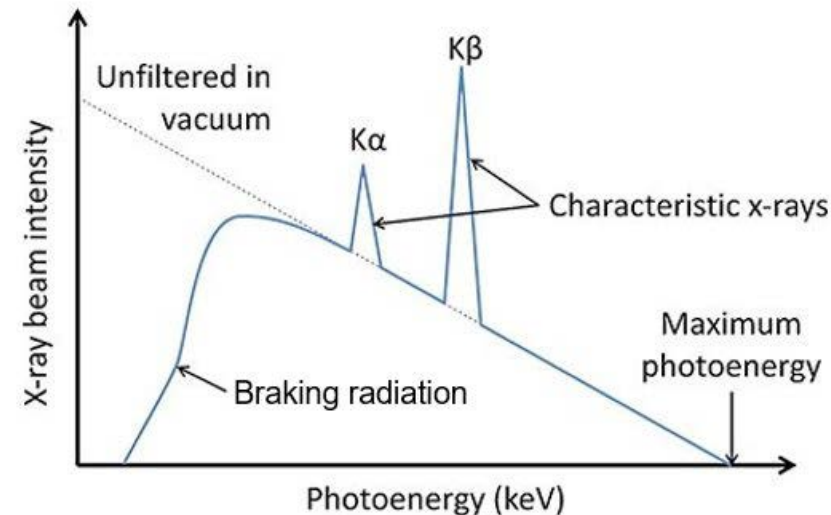

Fig. 5 – Typical X-ray spectrum
- **Braking X-rays** are emitted from the anode in a continuous range of energies, the maximum energy being determined by the tube voltage (Fig. 5).